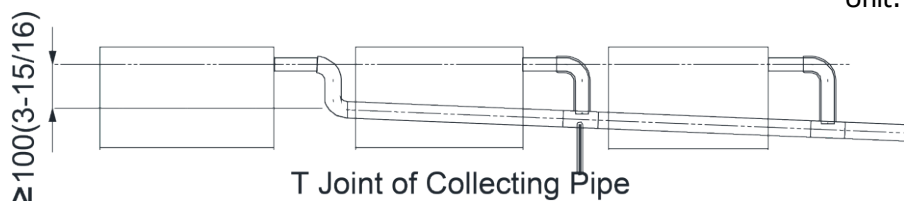

Fig 4.3.4
- (4) When connecting several drain lines, follow the instruction as indicated in Fig 4.3.4. Select the condensate drain line to match the unit capacity.